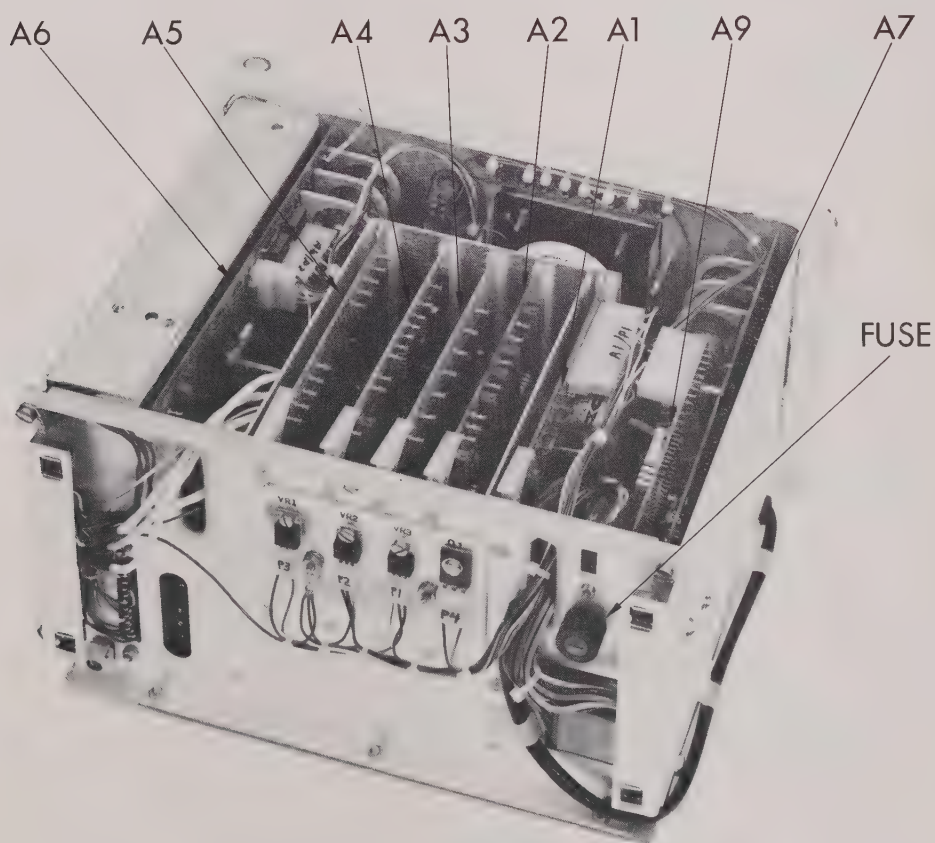

Figure 2-1. Rear View of Chassis of 415A-2 Showing Location of PC Boards and Fuse.
2.02 For access to internal parts of the 415A-2 and to various test points on PCB's, remove the instrument from its metal case as follows: (Figure 2-1 shows PC board and fuse location.)